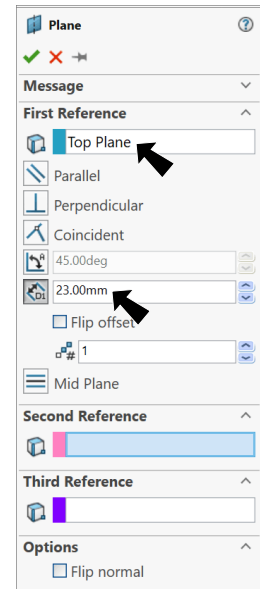

**Fig. 46**
Step 1. Click **Top Plane**  in the Feature Manager to display Plane in graphics area, **Fig. 46**.